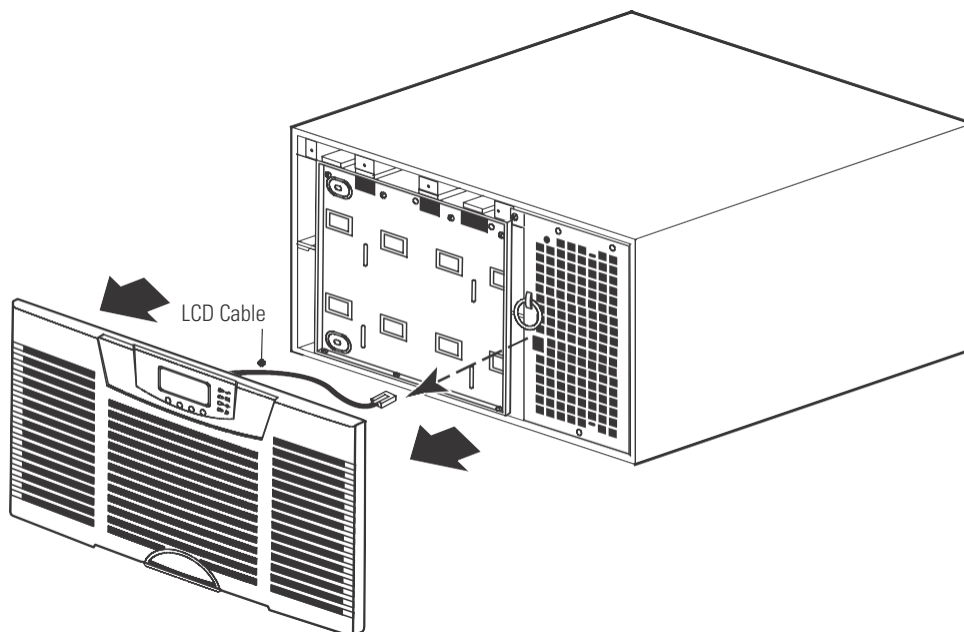

Figure 83. Removing the UPS Front Cover
2. Remove the UPS front cover and set it aside (see Figure 83):